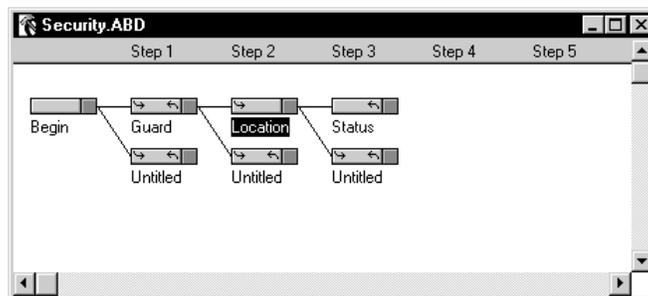

Figure 4-35 New Input Handler Added
- A new untitled Input Handler is added to the “Location” Handler (Figure 4-35).